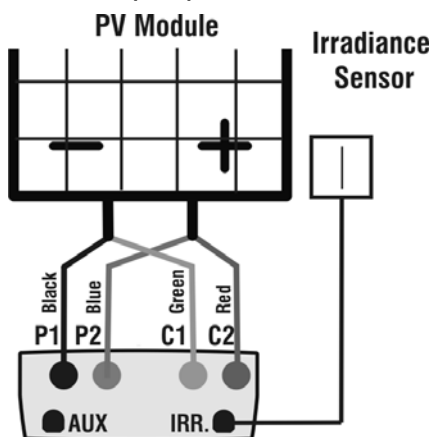

Fig. 10a: Instrument connection to module FV
14. Connect the meter to the module/string under test as shown in Fig.10a In particular, connect the negative output pole of module/string to P1, C1 input terminals and the positive output pole of module/string to P2, C2 input terminals